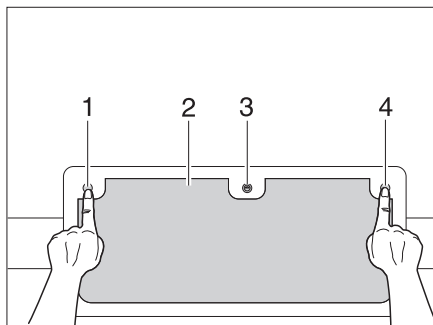

Fig. 32 Flap lock with buttons, locked
- Insert the key into the locking cylinder (Bild 32,3) and turn a quarter turn.
- Press in the three push buttons (Bild 32,1, 3 and 4).
- Close the external flap (Bild 32,2) completely until it engages audibly.
- Insert the key into the locking cylinder (Bild 32,3) and turn a quarter turn. The lock is locked.